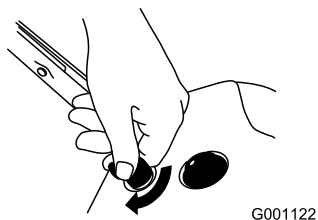

Figure 11
- Turn the ignition key clockwise to the On position (Figure 11).